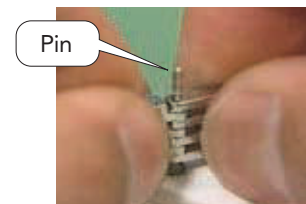

Fig.2
2) The pin is pushed out the opposite side. (Fig.2)